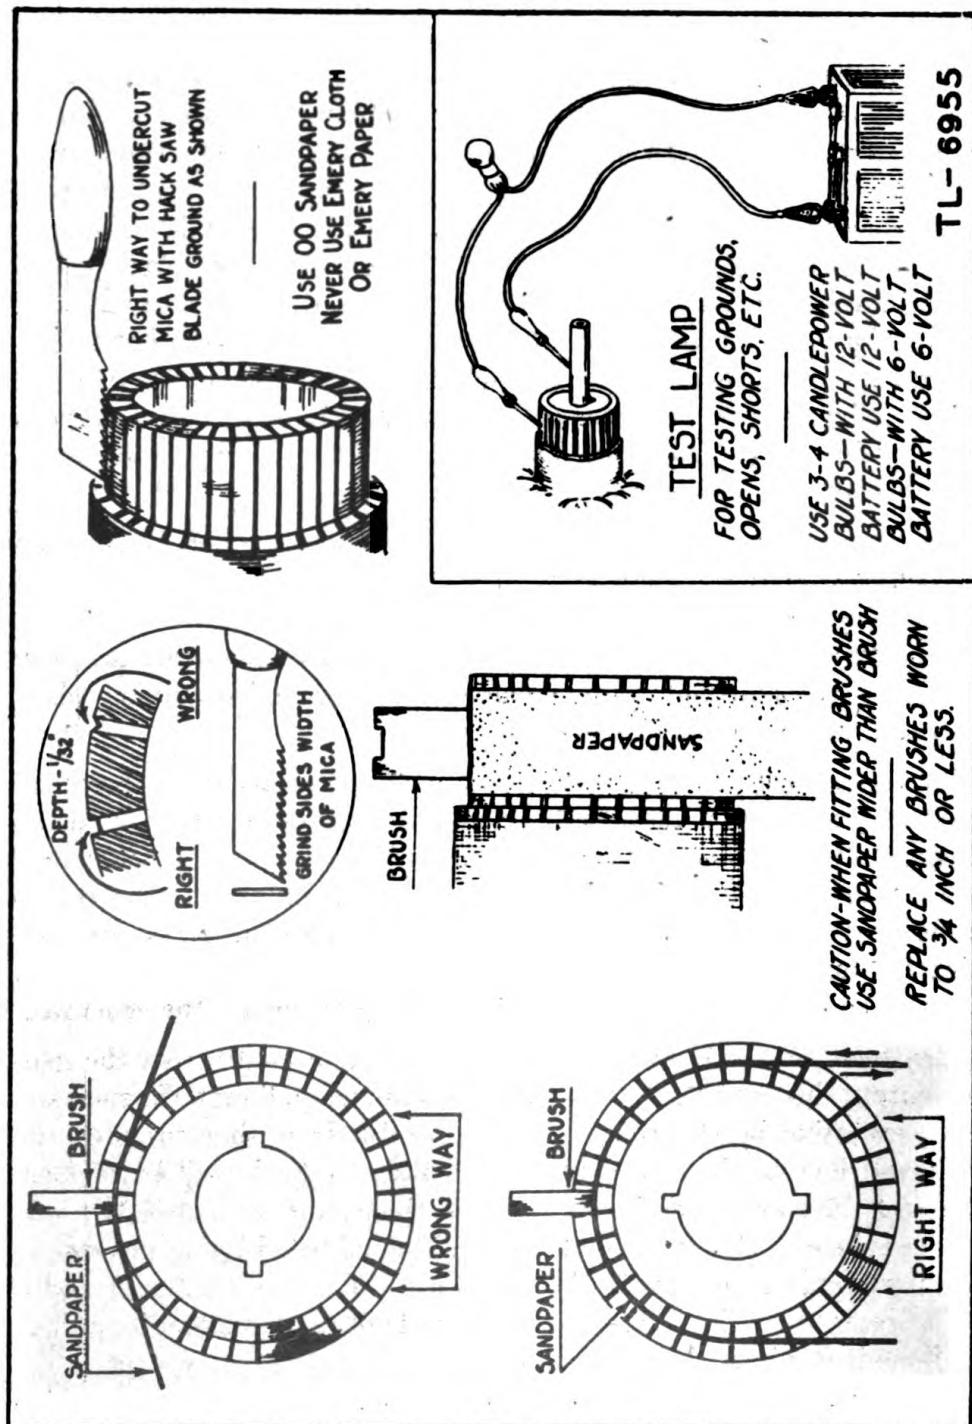

Figure 24.—Fitting brushes; undercutting and testing commutators.
c. Brushes.—Check brushes after every 300 hours of operation. When worn to a point where the brush holder arm nearly touches the brush holder, replace with new brushes. The brushes can be taken out by removing the lock wire holding brush and spring in brush holder. Disconnect brush pigtails from brush holder. To install brushes, reverse the procedure. Fit the brushes to the commutator and slip rings, by putting a piece of fine sandpaper (fig. 24) the width of the brushes on the commutator or slip ring (from the side of the commutator or slip ring). Shape the brush by pulling sandpaper in the direction of rotation of the generator while pressing on the brush. Release the pressure on the brush and pull the
d. Commutator.—The commutator is probably the most frequent source of trouble. Keep the commutator clean by rubbing with a clean, coarse cloth while the unit is operating, or if necessary with 000 (fine) sandpaper. Do not use sandpaper more than necessary. Do not use emery cloth or paper as they are electrical conductors and may short circuit the armature. If the commutator is rough, badly pitted, or out of round, place it in a lathe and turn it down until smooth. After turning down the commutator, undercut the mica insulation about $\frac{1}{32}$ inch below the level of the commutator bars so the brushes can ride on the copper without interference (fig. 24). Check carefully to see that no metal particles are lodged between the bars. The armature winding may be damaged if the plant is operated with the commutator shortcircuited in this manner.
e. Testing d-c winding.—To test the d-c winding of the armature raise the brushes from the commutator. Place one end of a test lamp lead (series hook-up using a 3 or 4 candlepower bulb with a 6- or 12-volt battery) on the commutator and the other lead on the end of the armature stud (fig. 24). If the bulb lights, the commutator is grounded and the plant will not generate current. Replace the generator.